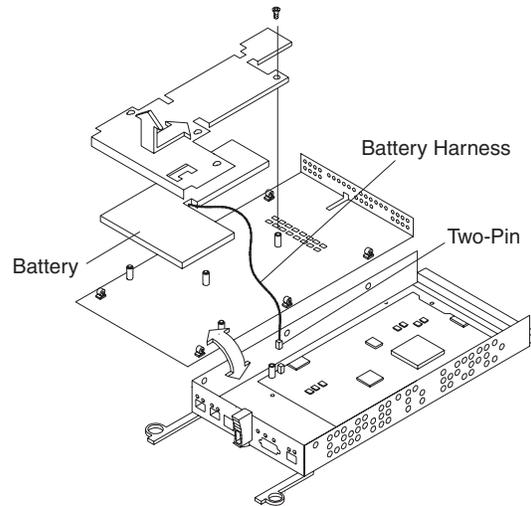

Figure 103. Removing the controller battery
8. Carefully flip over the RAID controller bottom panel. Disconnect the battery harness on the battery from the two-pin connector on the controller board, as shown in Figure 103 on page 139.
11. Carefully flip over the RAID controller bottom panel. Disconnect the battery harness on the battery from the two-pin connector on the controller board as shown in Figure 103 on page 139.